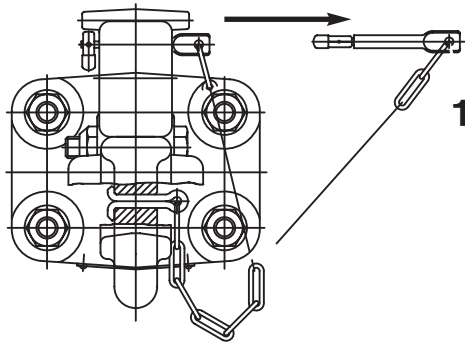

Fig. 4
- Fasten the coupling with 4 bolts and self-locking nuts (see table) (see Fig. 4).